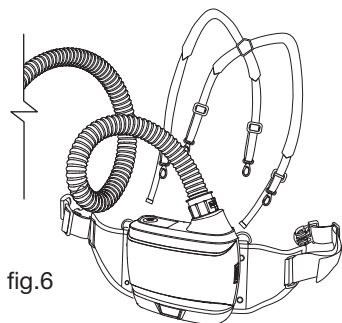
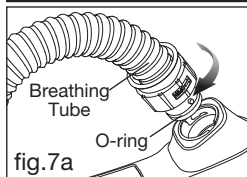

fig.6
fig.7a
- Always inspect the PAPR end of the breathing tube to confirm the rubber O-ring is in place, see fig.7a. Replace if missing or damaged.
Insert the two prongs on the breathing tube into the blower unit and hood receptacle (See fig.6), twist 1/4 turn to the anti- “open” direction to lock into place (See fig.7a).